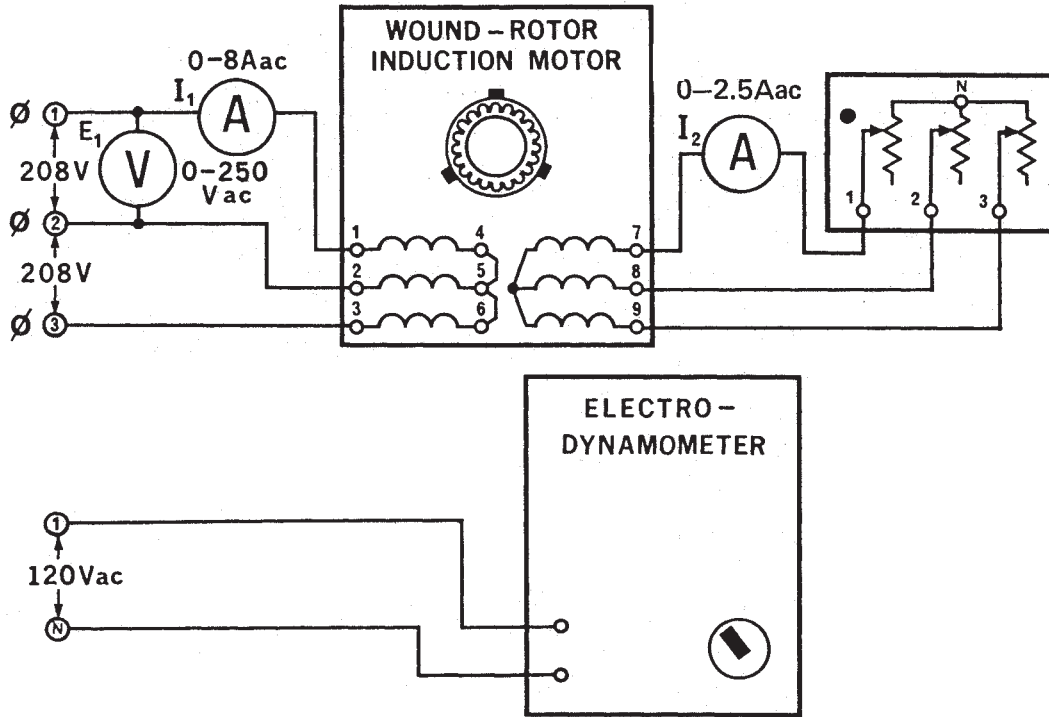

Figure 5-2.
8. a. Connect the circuit shown in Figure 5-2. Note that the fixed 3 ϕ output of the power supply, terminals 1, 2 and 3 are now being used.